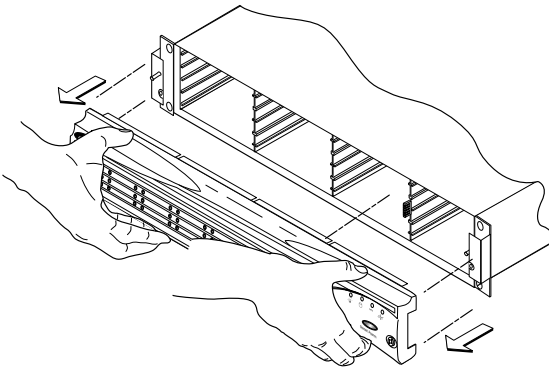

Figure 3-6 Removing the Front Bezel
- 2 Using both hands, pull the front bezel from the enclosure. See Figure 3-6.